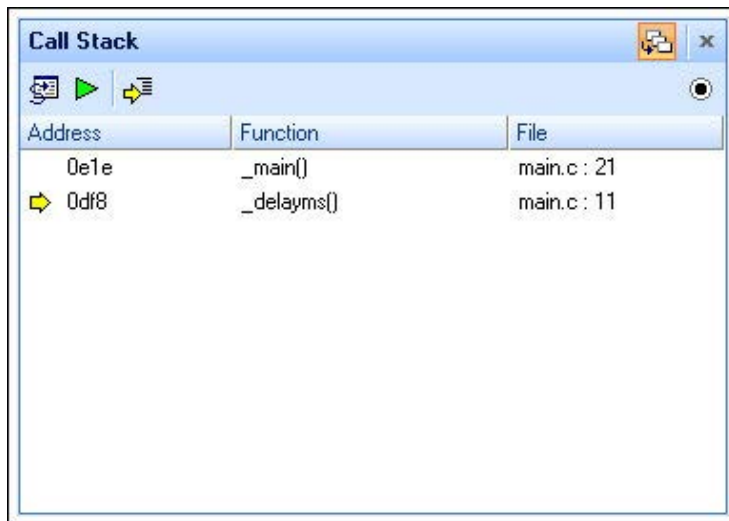

Figure 9. Call Stack while running in the `delayms()` function.
- Debug → Debug Windows → Call Stack will show you the functions that have been called to get your application to its current point. If you pause while in the `delayms()` function, you should see something like **Figure 9**.